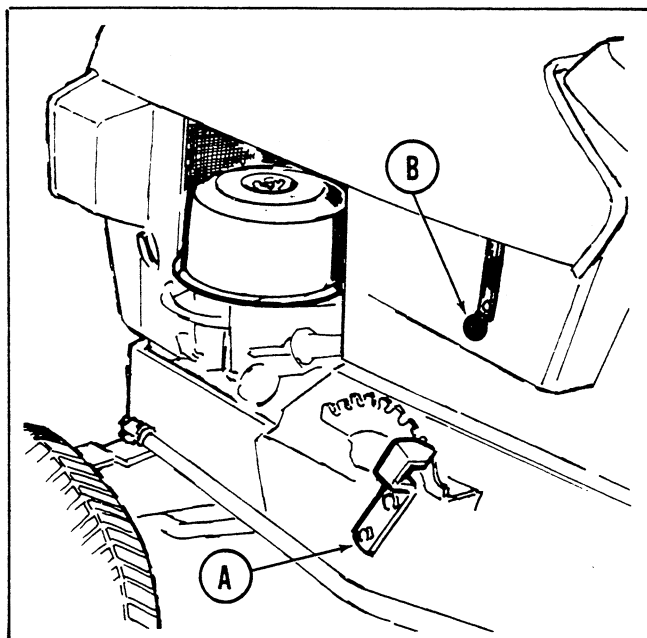
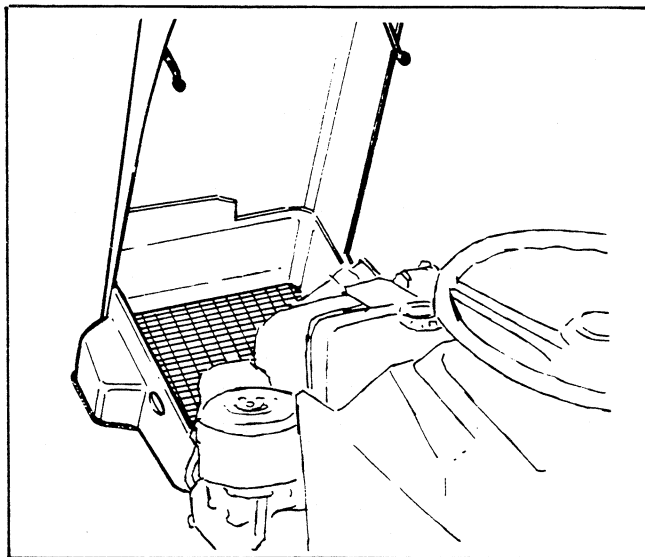

Figure 6. Left side of tractor.
Figure 7. Tractor hood raised for easy access.
See figure 6. The tractor hood is hinged at the front by two spring loaded bolts. It may be easily opened by releasing the two rubber straps (B) located on either side of the hood. Pull down and out on the straps to release them. See figure 7. Lift upward on the back of the hood to raise it as shown. The hood raised in this position provides easy access to the generator, battery, fuel tank, engine, etc.